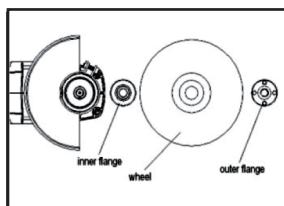

Fig 3
1. Mount the inner flange onto the spindle, fit the wheel/disk on the inner flange and screw the outer flange onto the spindle [Fig 3].